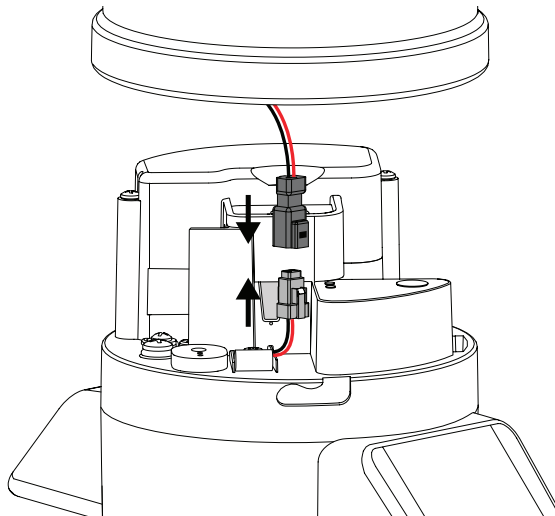

Figure 17 Pyranometer cable connector
1. Reattach the pyranometer connector by mating the two halves of the white connector and seating them firmly together until the tabs lock (Figure 17).